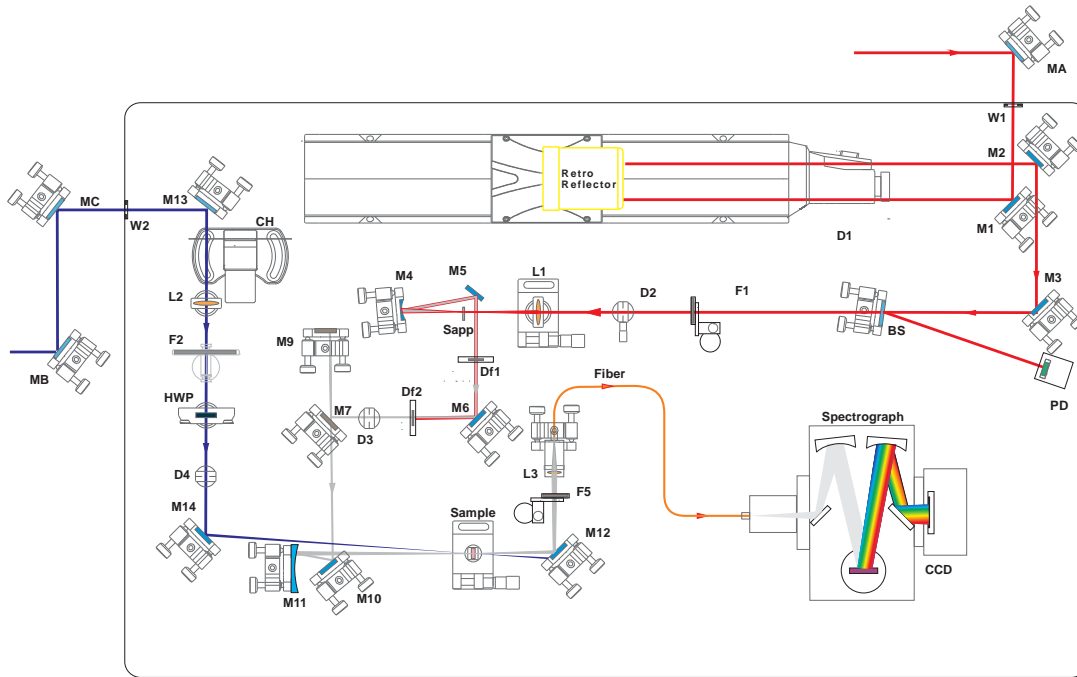

Figure 3. FemtoFrame II-G optical layout
3. Block the input beams before opening the cover. Make sure all optical components inside FemtoFrame are orientated according Fig. 3 before unblocking the path of the beams. Intense light beams, their specular and scattered reflections can be emitted from various parts of FemtoFrame when the cover is opened!
Femto Frame II main optical unit is equipped with two optical input ports – W1 and W2 (fig 3.). The laser beam (800nm) that generates the probing light enters the box through the optical port W1. After reflection from the flat mirror M1, the beam strikes the Retro Reflector. After the Retro Reflector the beam strikes the flat mirrors M2 and M3 and is directed towards the beam splitter BS. BS reflects small part of the probing beam towards the photo diode (PD) for system synchronization. The portion of the beam that passes through BS strikes the filter F1, which is used to adjust the power for the white-light probe generation. The half-wave plate (HWP) is used to rotate the polarization of the beam to a user defined angle. After F1 the beam passes through the programmable iris D2 and is focused into the Sapphire Disc by the lens L1. The generated white light continuum is collimated by the concave mirror M4 and after a reflection on mirror M5 is filtered by the filters DF1 and DF2. After reflection from the flat mirrors M7, M9 and M10, the continuum strikes the concave mirror M11, which focuses it in the sample cell. The transmitted through the sample probe beam is directed towards the lens L3 by the mirror M12. Beam passes through variable neutral density filter F5 which serves to adjust the intensity of the probe light on the detector. The focused by L3 probe light is supplied via the fiber cable to the grating spectrograph and CCD linear detector.
Through this chapter please refer to the FemtoFrame layout Figure 3 below.
FemtoFrame is delivered to the customers with the optics removed and packed separately for safety issues. Nevertheless, every single FemtoFrame spectrometer is previously tested and the mechanical components are positioned and orientated according Fig. 3. Before starting to mount the optics in their positions, please check whether the mechanical holders and components are correctly orientated.